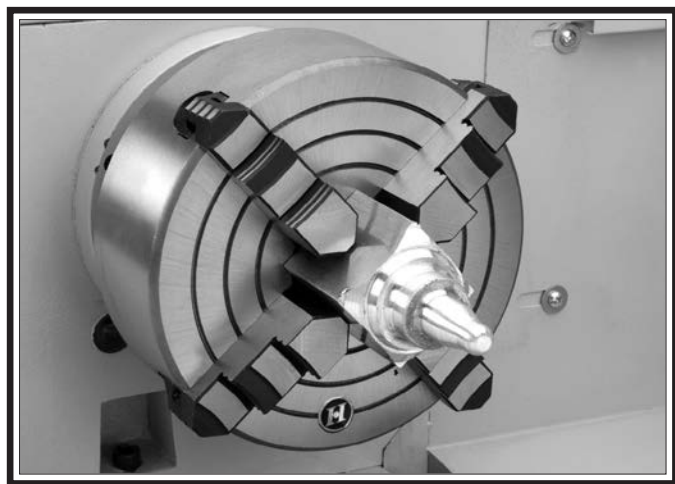

Figure 44. Example photo of non-cylindrical workpiece correctly mounted on the 4-jaw chuck.
- If the workpiece is not correctly aligned for your operation as you turn the chuck, make fine adjustments by slightly loosening one jaw and tightening the opposing jaw until the workpiece is correctly aligned (see **Figure 44** for an example).